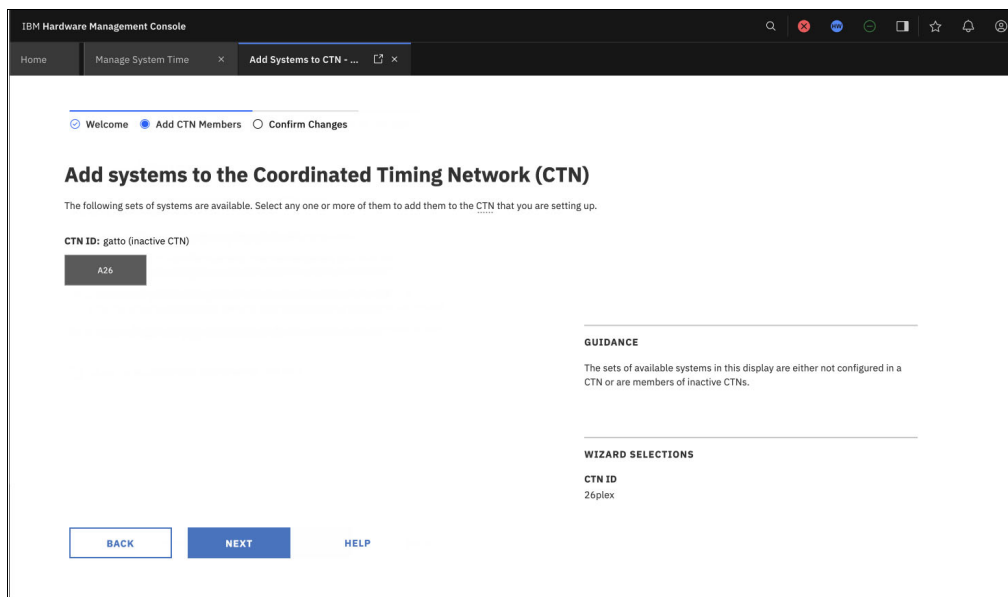

Figure 3-22 Select systems to add to CTN
2. Click **NEXT** to select the systems to add to the CTN, as shown in Figure 3-22 on page 52.